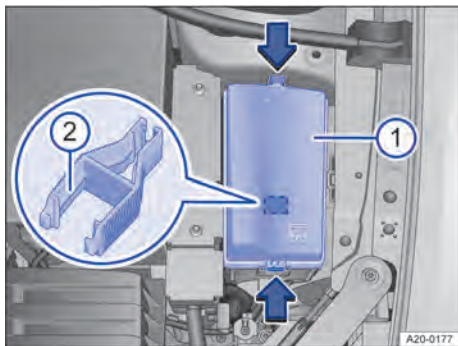

Fig. 189 In the front compartment: fuse box with plastic grippers.
- ① Fuse box.
- ② Plastic pliers.
There may be a pair of plastic grippers for removing fuses in the fuse box → Fig. 189 (2).
2. To release, push the catches in the direction of the arrows → Fig. 189.
3. Lift off the cover → Fig. 189 ①.